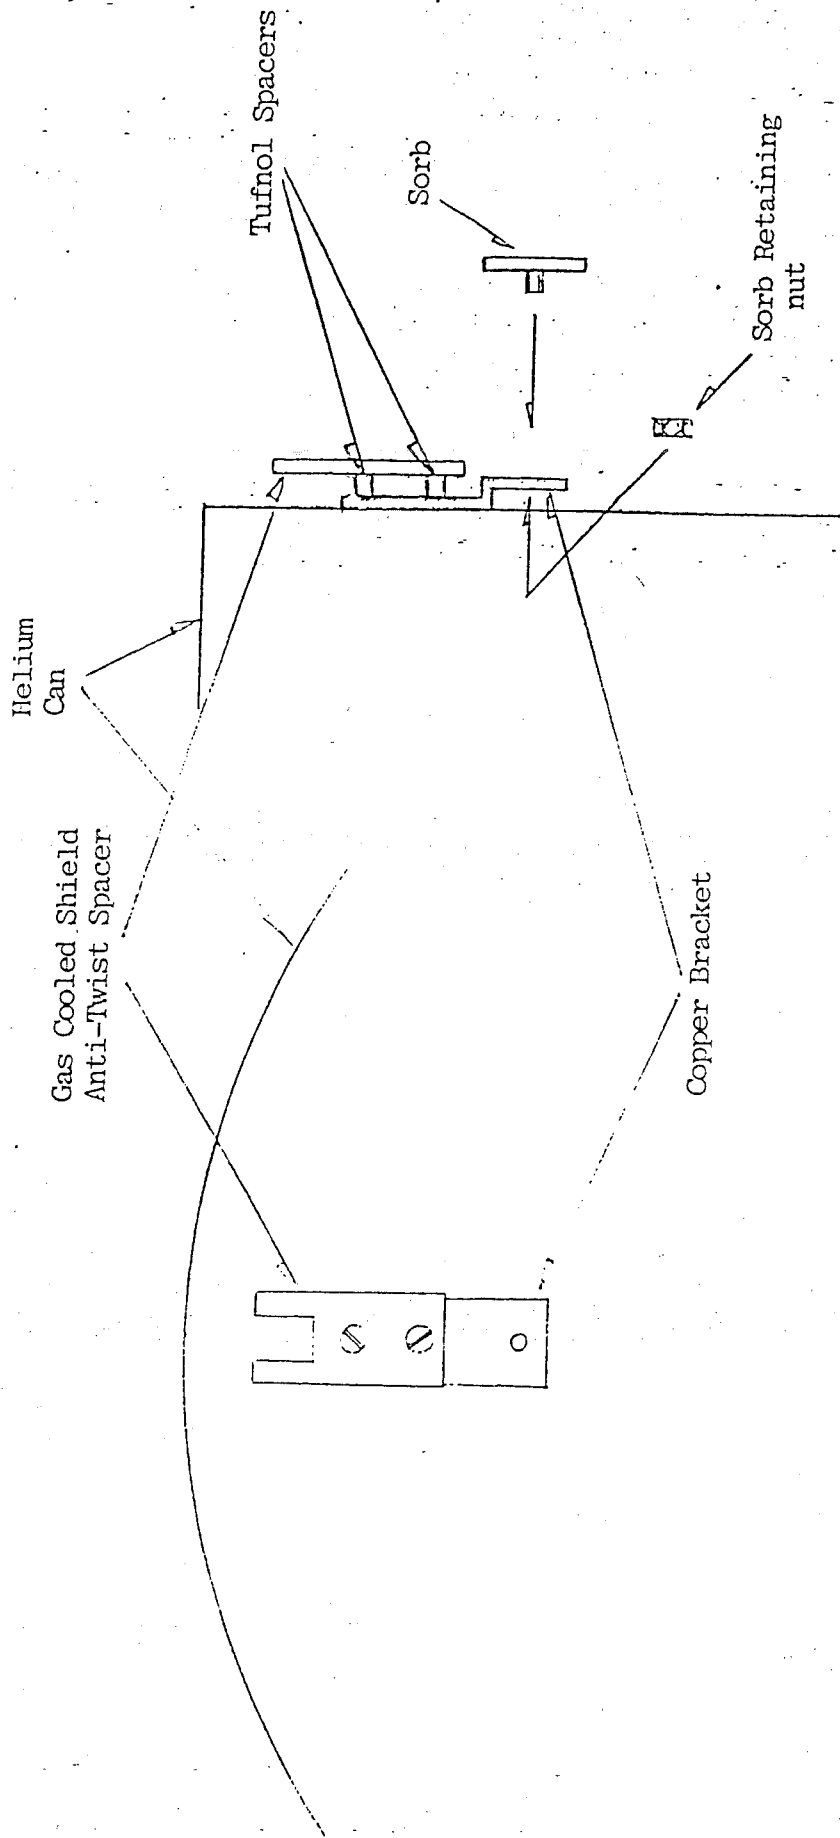

FIGURE 1
Two sorbs should be fitted, one at either end of the helium can. Each is held onto the helium can by a copper bracket which is bolted under the GCS anti-twist plate on the top of the helium can and flanges. The sorb is then bolted to the copper spacer (see figure 1).
Two sorbs have been fitted to the cryostat, one at either end of the helium can. The internal wiring of a sorb is shown in figure 1.
- 3 The transportation brackets are arranged as shown schematically in figure 1. Bolts for the helium vessel and nitrogen vessel are locked in position using a wire locking mechanism. Before removing the bolts, break the wires with wire cutters at position indicated in figure 2 (d), and remove wire from each bolt.